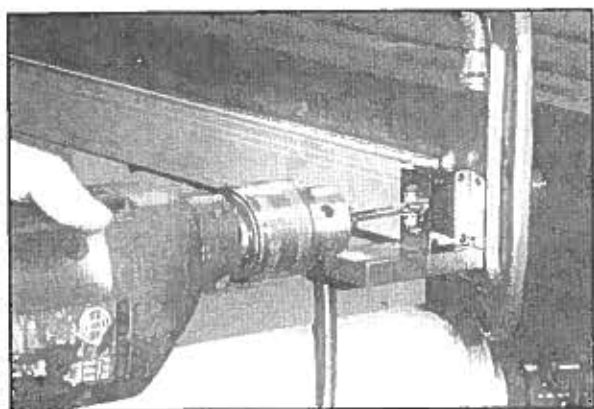

Figure 15. Drilling the screw holes.
1. Carefully drill and tap the holes (**Figure 15**) to match the provided screws.